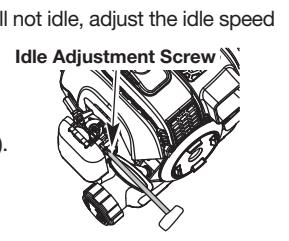

Fig. 33
The idle speed of the engine is adjustable. An idle adjustment screw is between the air filter cover and the engine starter housing (Fig. 33).
- Release the throttle trigger and let the engine idle. If the engine stops, insert a small phillips screwdriver into the idle adjustment screw (Fig. 33). Turn the idle speed screw **CLOCKWISE** 1/8 of a turn at a time (as needed) until the engine idles smoothly.